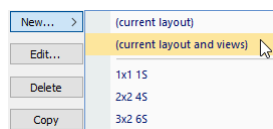

Figure 188 – List of layouts for new hanging protocol
2. Click the **New...** button in the displayed **Hanging protocol manager** dialog, and select the **(current layout and views)** item in the displayed menu (see Figure 188).